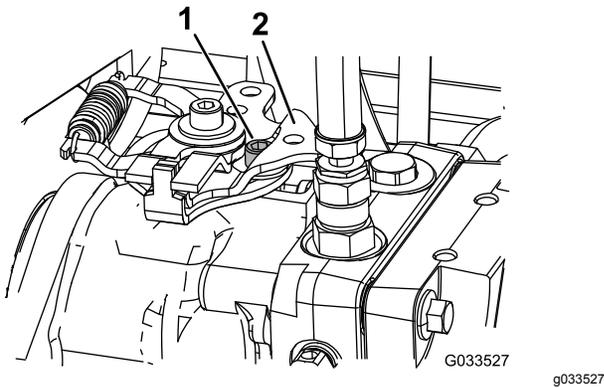

Figure 41
3. At the traction-hydraulic pump (inboard) remove the control linkage from the control arm (Figure 41).